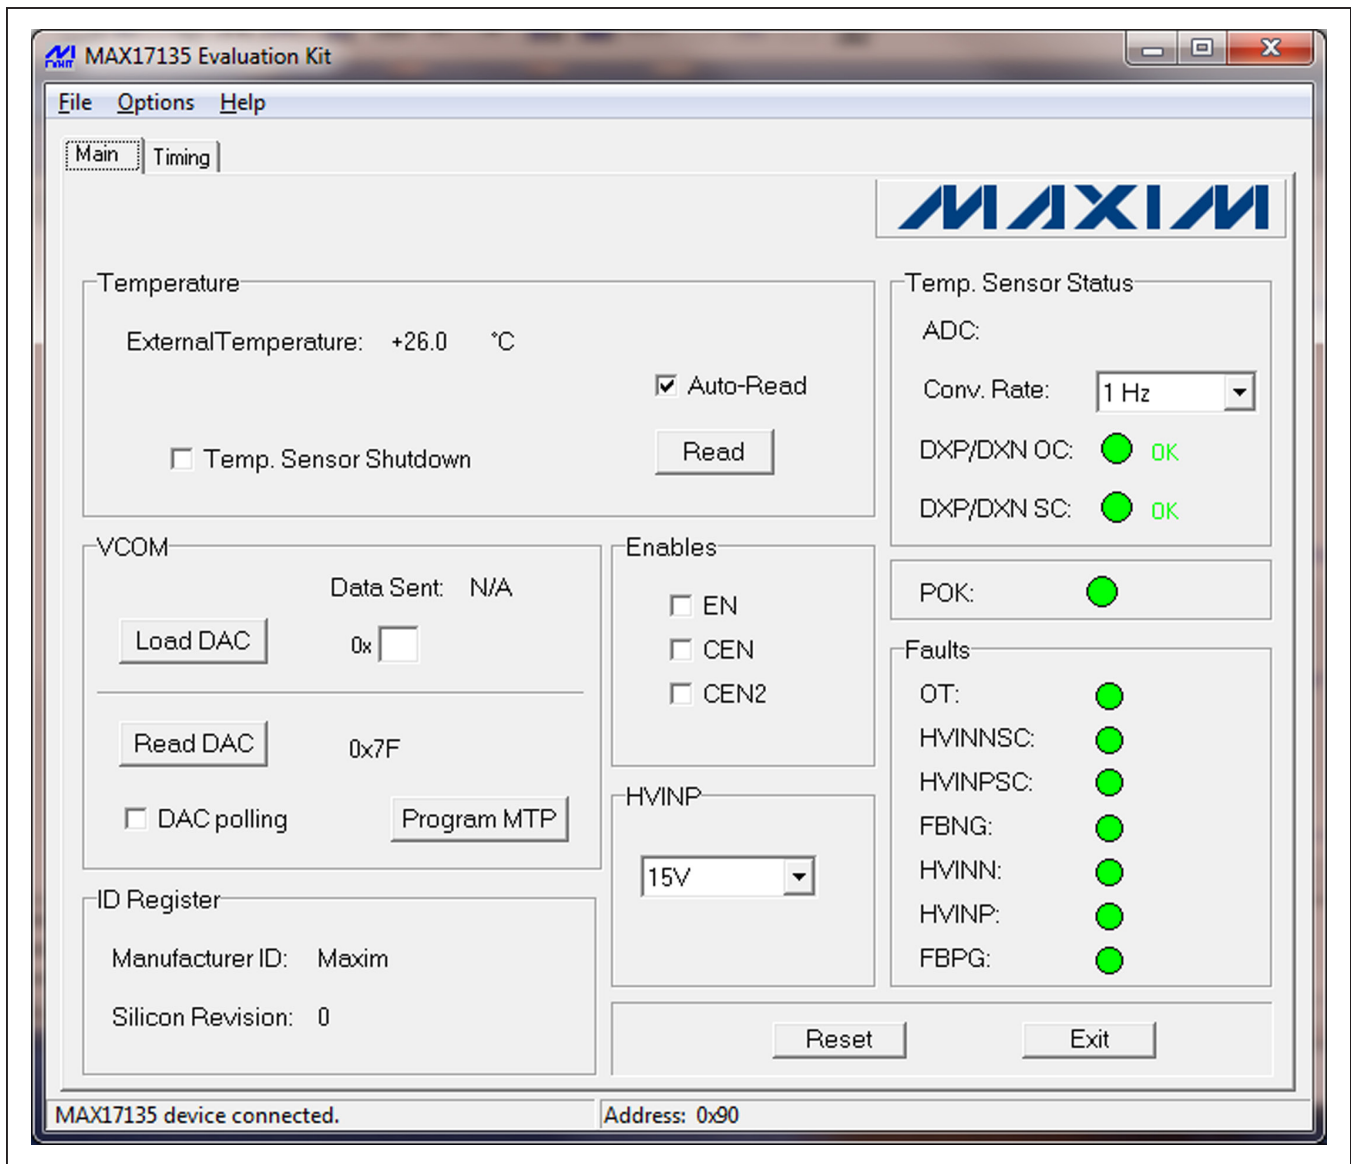
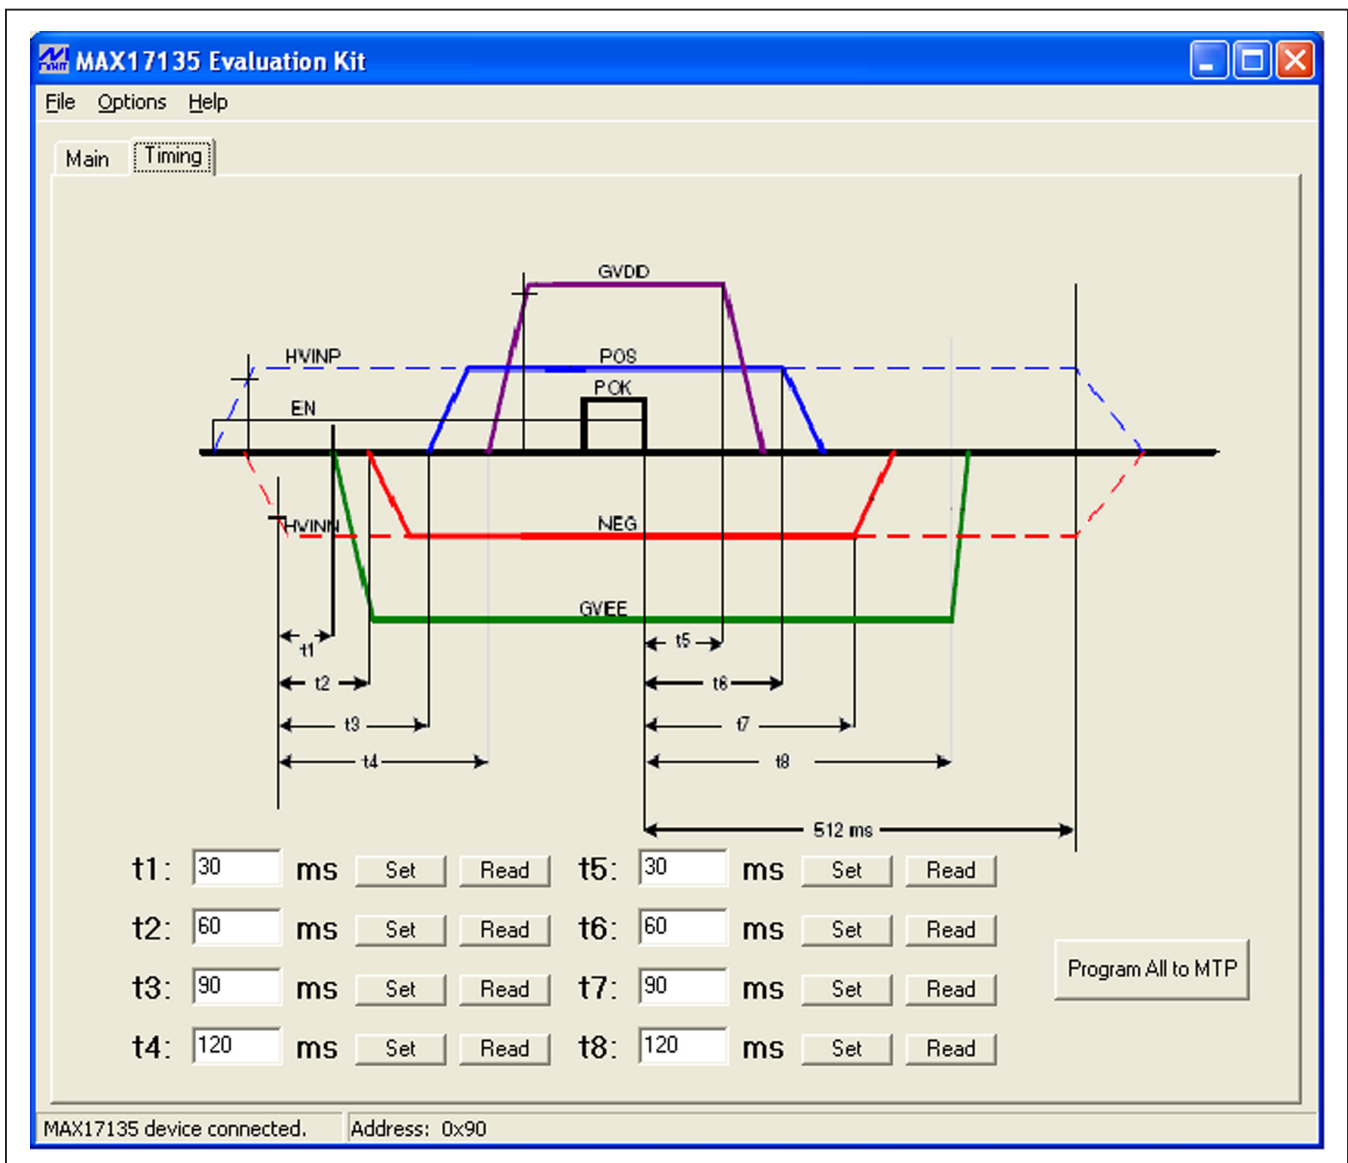
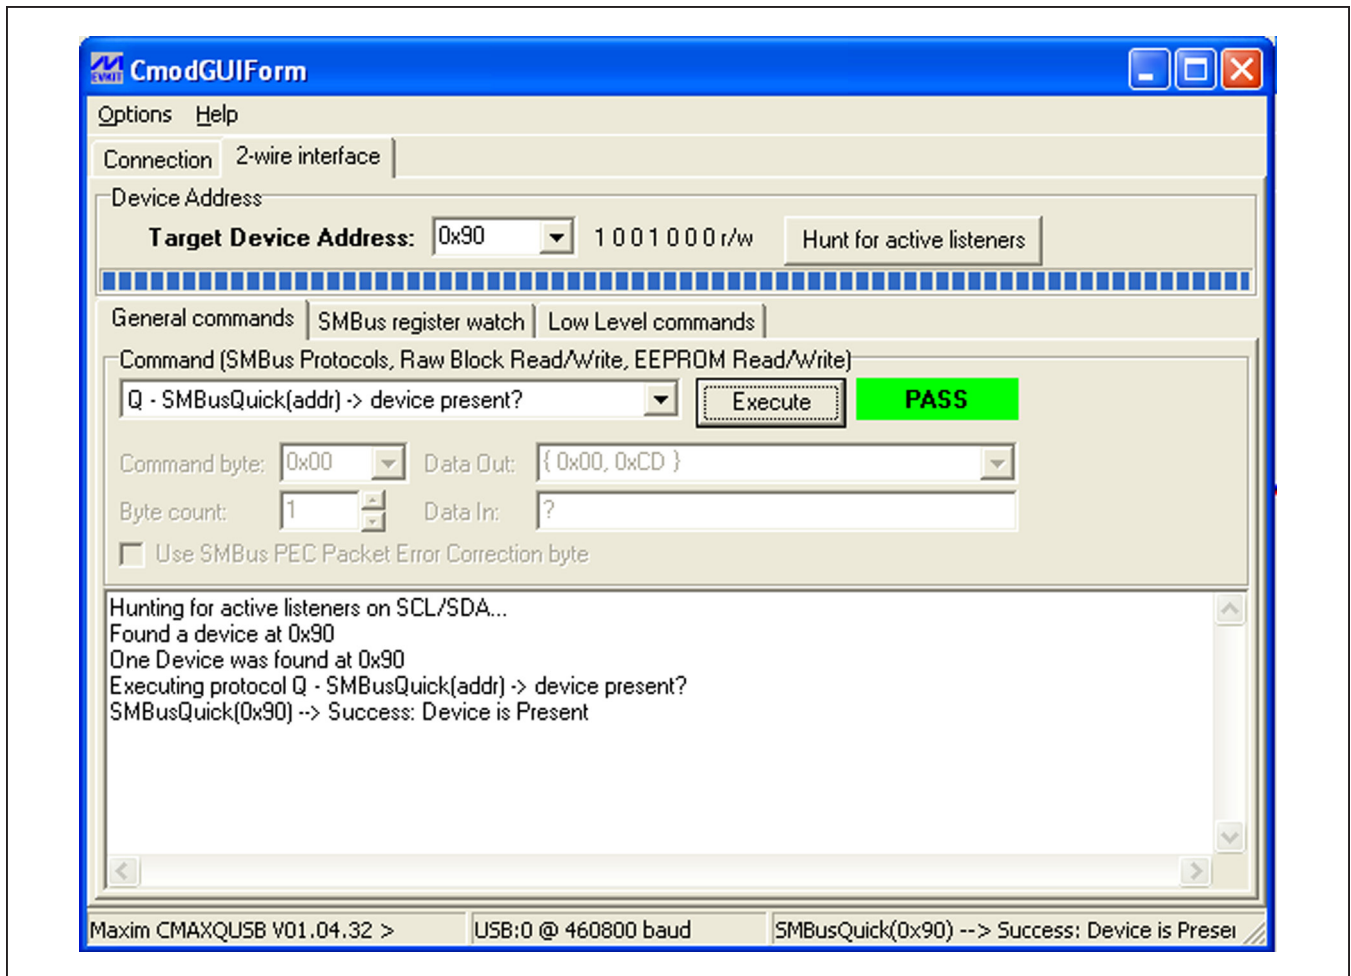

Figure 1. MAX17135 EV Kit Software (Main Tab)
Figure 2. MAX17135 EV Kit Software (Timing Tab)
Figure 3. Command Module Interface Window
- 14) Normal device operation is verified when MAX17135 device connected is displayed in the bottom-left status bar on the EV kit main window (Figure 1).
The MAX17135 EV kit software consists of two tabs: **Main** and **Timing**. The **Main** tab sheet (Figure 1) features controls for reading temperature, VCOM adjustment, enables, HVINP control, temperature sensor status, POK, and monitoring faults. The **Timing** tab sheet (Figure 2) features controls for power-up/power-down sequence and timing between the GVEE, NEG, POS, and GVDD power rails. Refer to the MAX17135 IC data sheet for further details.
The DAC setting corresponds to the specific VCOM voltage. With the EV kit software, the IC's 8-bit internal DAC is configured by entering an appropriate DAC setting into the **Load DAC** edit box in the **VCOM** group box. The DAC setting can be set from 0x00 (VCOMMAX) to 0xFF (VCOMMIN). The DAC setting is written to the IC by pressing the **Load DAC** button (Figure 1).
In the **Timing** tab sheet (Figure 2), the power-up/power-down sequence and timing between the GVEE, NEG, POS, and GVDD power rails can be set by programming the t1–t8 Timing registers with corresponding values. During power-up of the IC, once IN and VDD exceed their undervoltage-lockout thresholds, the t1–t8 Timing registers are loaded with values stored in the nonvolatile memory to preset the t1–t8 timing. The factory-default timing settings in the nonvolatile memory are:
There are two methods for communicating with the IC: through the EV kit software main windows (Figures 1 and 2), or through the **Advanced Users Interface** window, which is available by selecting the **Options | Interface (Advanced Users)** menu item from the menu bar. The Maxim command module interface window (Figure 3) includes a **2-wire interface** tab that allows for execution of the **SMBusSendByte()**, **SMBusReceiveByte()**, and **SMBusQuick()** commands.